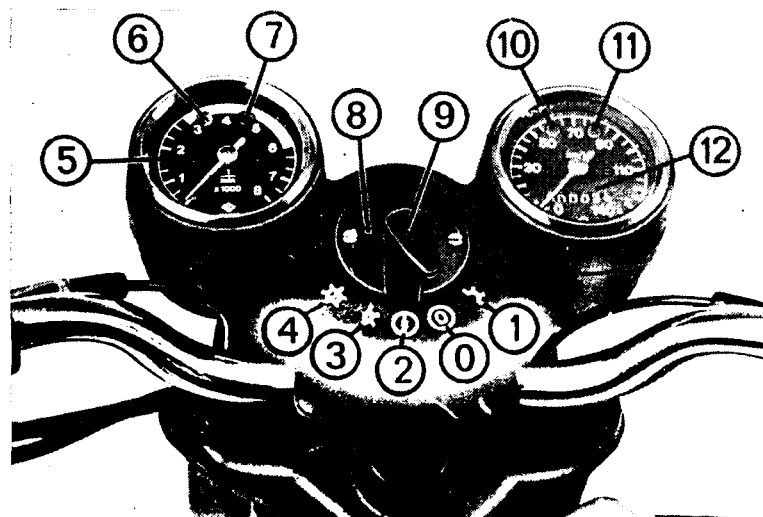

Fig. 3. Instruments (de luxe model)
2. Switch on the ignition system (Fig. 3/1).
- (1) Ignition and light switch (switch positions same as in Fig. 3.)
- (2) Speedometer with kilometer counter
- (3) High-beam headlight indicator (blue)
- (4) Tell-tale light for dynamo and flashing-light direction indicator system (green)
- (Z) throttle twist-grip closed
- (A) throttle twist-grip open